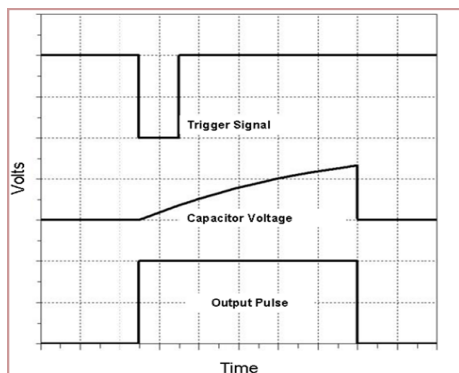

Figure 21. Operation of 555 timer.
5. Set the time for 10 seconds or a different value that is convenient based on available components. Connect a high value resistor from the "Trigger" pin to V_{cc} . The value is not critical but be sure to select one that is over 100k. Connect a wire to the trigger connection and leave the other end floating for now. When this pin goes low or connects to ground, the circuit is triggered and the output goes to V_{cc} for the set time interval as shown in Fig. 21.